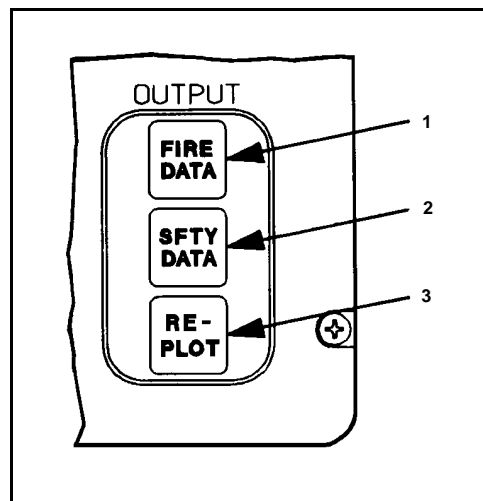

Figure 6-6. Output switches.
e. **Output Switches** (Figure 6-6). These switches include the following: